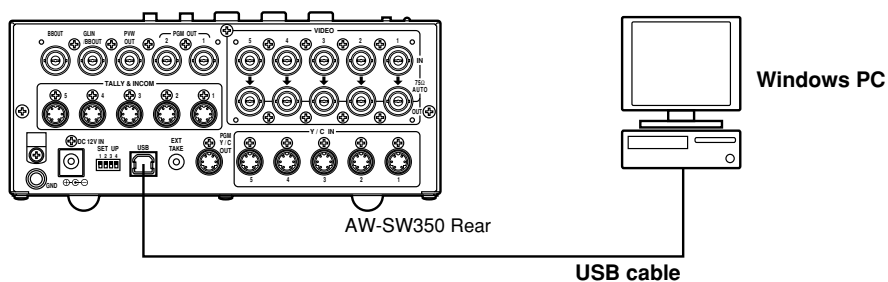

Fig.1 Connections
- 2** Set the AW-SW350's Power Switch to ON, check that the Power Indicator has lit, and connect one end of the A-B type USB cable to the USB port on the rear panel of the AW-SW350 and the other end to the USB port on the host computer. (Fig.1)